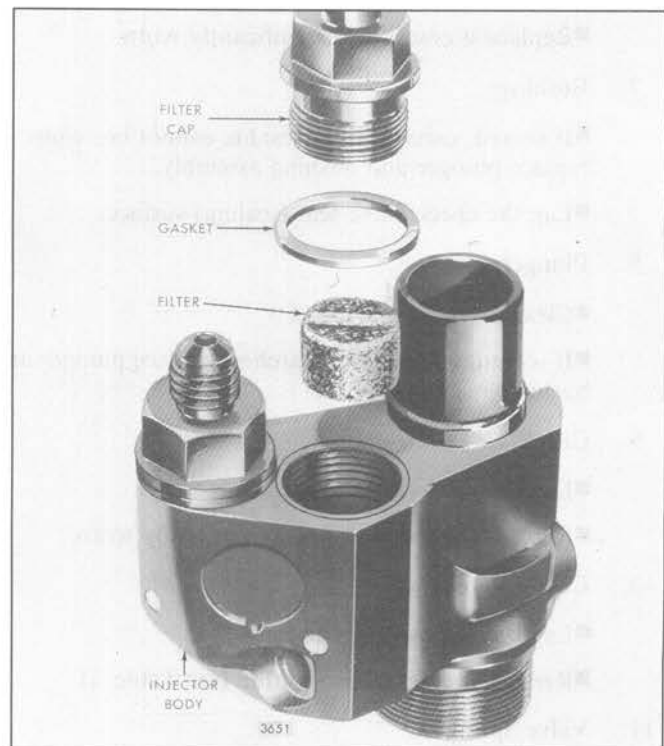
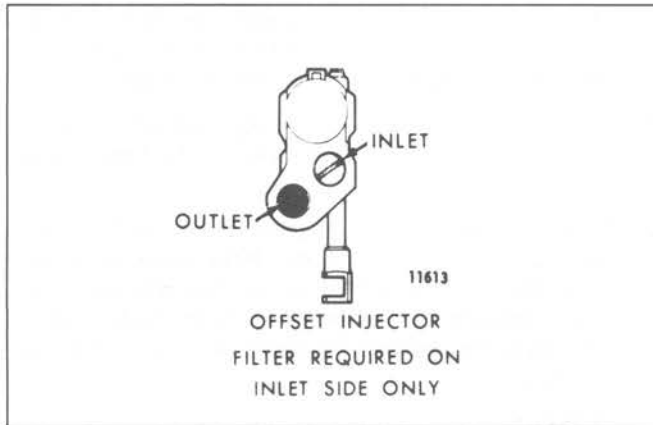

Fig. 26 – Details of Injector Filters and Caps and Their Relative Location
Fig. 27 – Location of Filter in Injector Body
2. Insert new filter(s) in the top of the body (Fig. 26). The current production filter (stainless steel wire mesh pellet) is installed dimple end down, slotted end up. The current service filter (fiberglass-filled nylon cone) must be installed with the pointed (cone) end up. Insert a new filter in the inlet side (located over the injector rack) in an offset injector. No filter is required at the outlet side (Fig. 27).